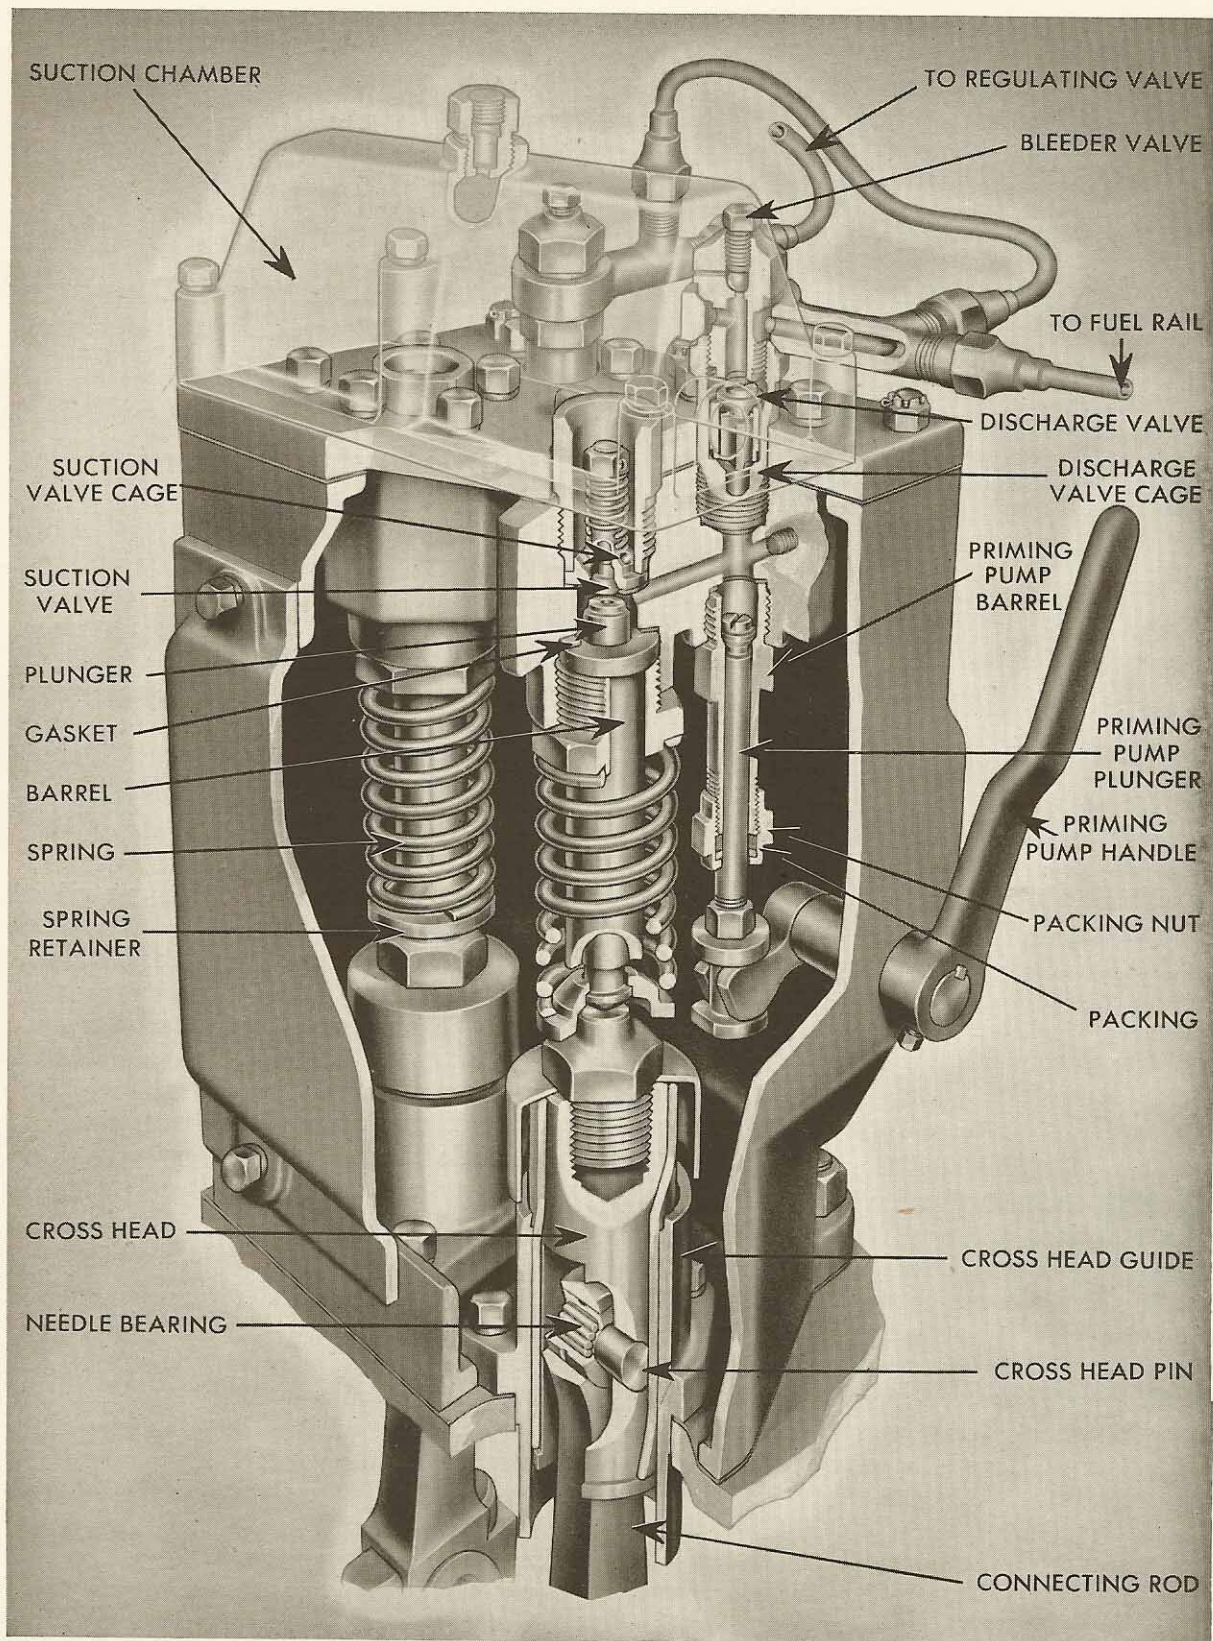

FIGURE 16-6
13. DISASSEMBLY: Reference to Figure 16-6 will show that the suction chamber is formed by the cover, which is shown in phantom, and the pump mounting plate. The suction valves are reached by removing this cover while the discharge valves are outside of the cover and directly under the bleeder valves. The two pumps and the priming pump are assembled to the mounting plate which, when removed, exposes the entire assembly. The connecting rod and crosshead guides are reached by the removal of the door in front of the after end of the camshaft.
The high pressure pump barrel is held into the pump block by the large nut just above the spring shown in Figure 16-6. If this barrel is replaced be sure a new copper gasket is used between the flange of the barrel and the pump block. The retaining nut must be well tightened.
18. REMOVAL OF CROSSHEAD GUIDES: Figure 16-6 shows a metal shield over the crosshead. This shield prevents any fuel leakage going into the base and mixing with the lubricating oil. Under the shield and around the guide is a sleeve which can be replaced if worn or scored.